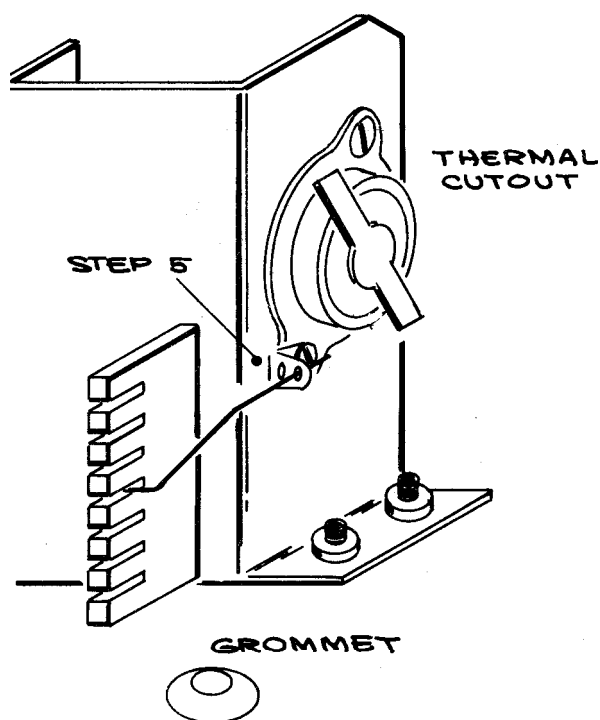

Fig 1
NOTE: Mount the solder lug between the screw head and the thermal cutout (see Fig 1, step 5).
- () 6. Mount the silicon rectifier assembly (from kit), as shown in Fig 1. Use the 6-32 x 5/16 PHS screws and #6 flat washers (from kit), placing a flat washer under each screw head. (Insert screws from bottom of chassis.)